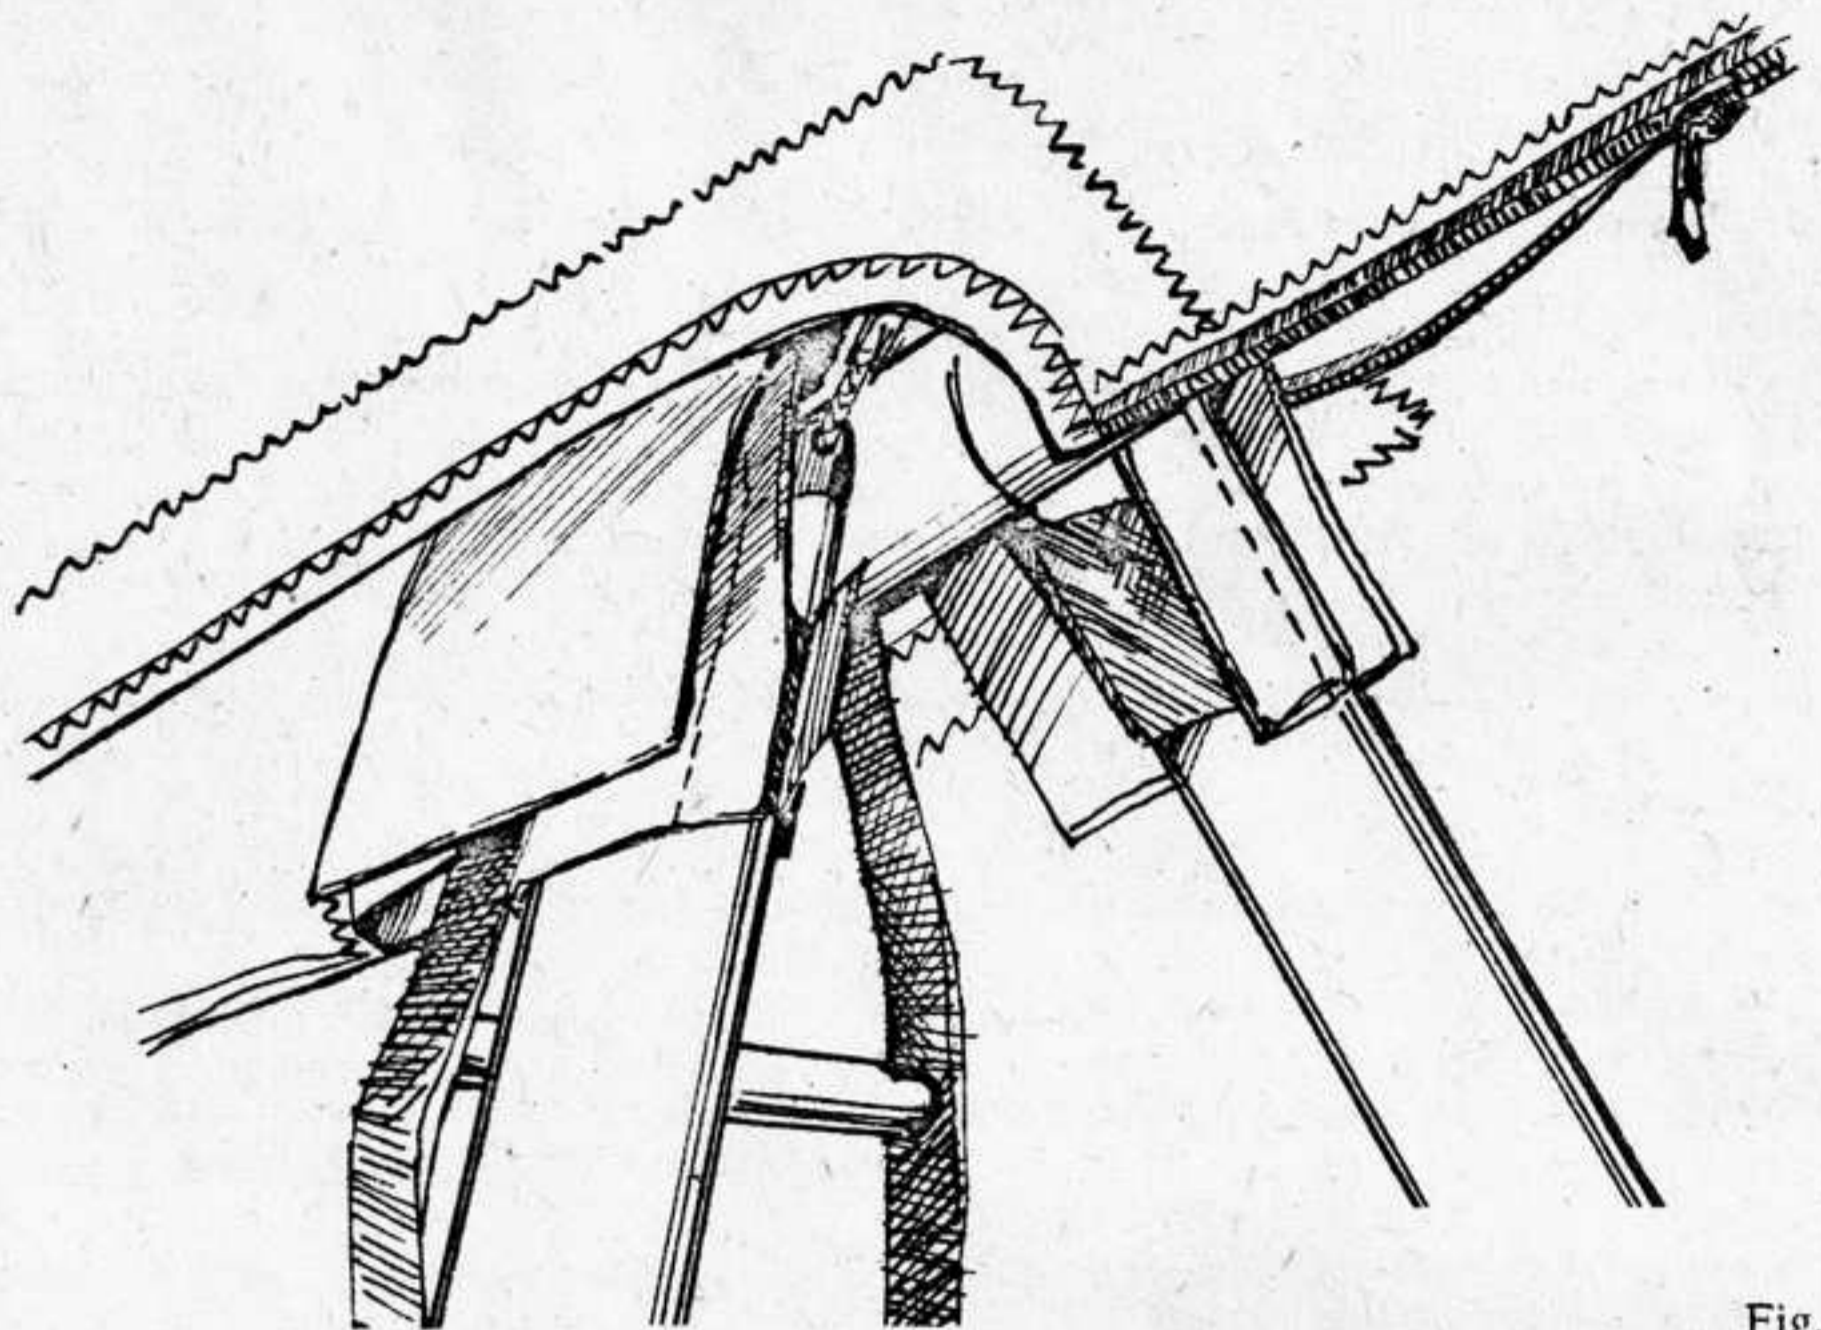

Fig. 11
4.1.4. Unzip the bottom surface and orientate the paddings sewed on the sail so that they protect the thimble fittings of the uprights from the contact with sail (fig.11). Zip the zipper.